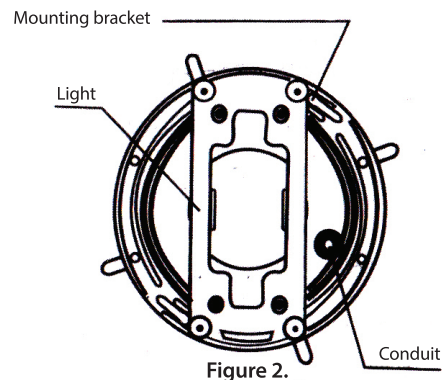

Figure 2.
2. Connect conduit to midst of the mounting spacer (left of the bracket), see figure 2.